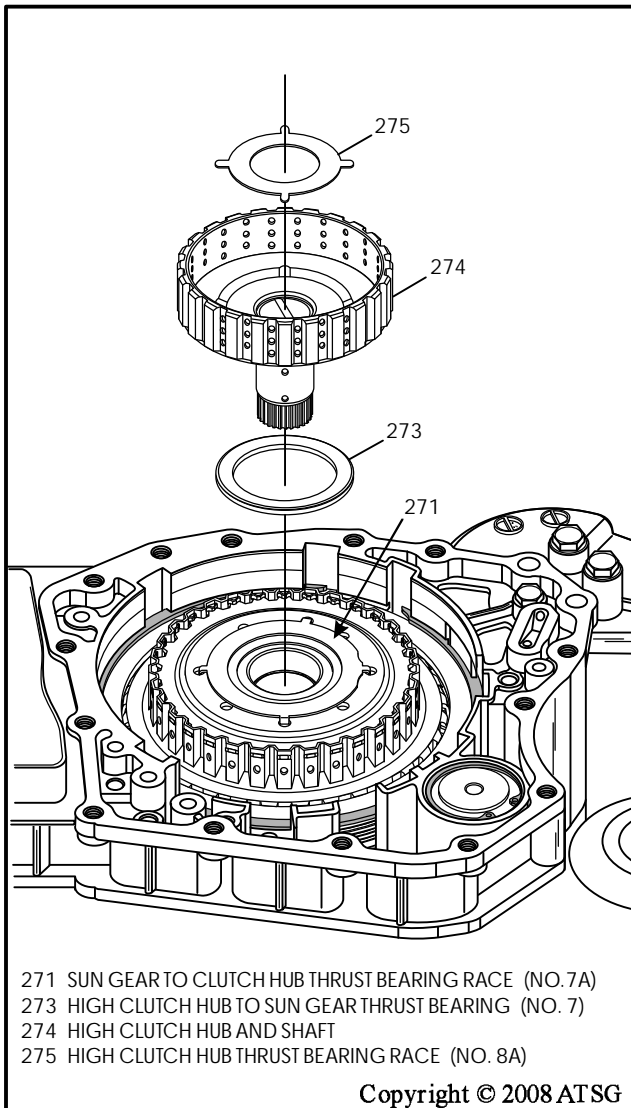

Figure 53
57. Remove the direct clutch hub and the number 8A thrust bearing race, as shown in Figure 53.
58. Remove the number 7 thrust bearing, as shown in Figure 53.